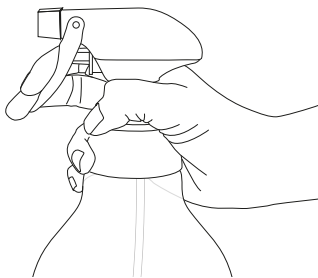

Figure 110: Check for Leaks with a Suitable Foaming Agent
11. Check brake chambers, air lines and connections for air leaks. Ensure that there is at least 620 kPa of pressure is available. Refer Figure 110.